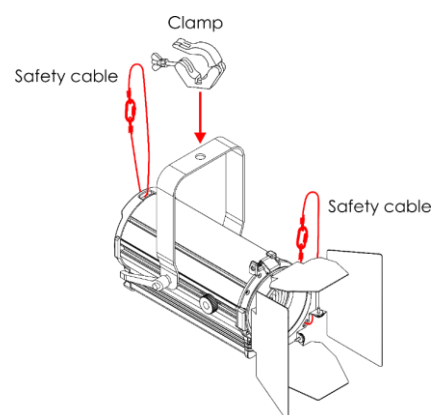

Fig. 08
- 03) If the barndoor is installed, secure the barndoor to the overhead structure with an appropriate secondary attachment, for example a safety cable. Put the safety cable through the **safety eye (16)** of the barndoor, as shown in Fig. 08.